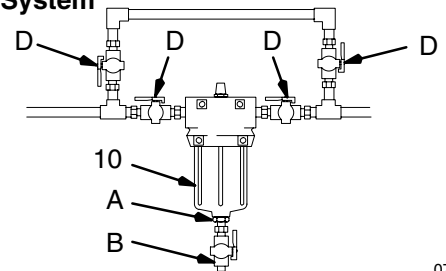

Fig 2
Install the filter and by-pass pipes as shown in Fig 2. An adapter (A) and drain valve (B) must be installed in the filter bowl (10) to relieve fluid pressure and drain the filter before removing the bowl. Install four suitable shut-off valves (D), one at the filter inlet; the filter outlet; the by-pass pipe inlet; and the by-pass pipe outlet, to redirect the fluid and isolate the filter while cleaning or servicing the filter.